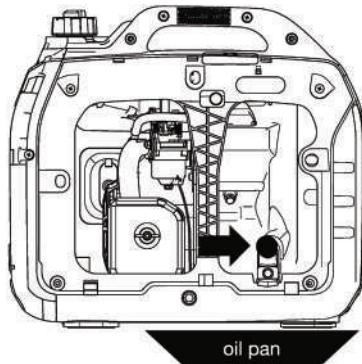

Figure 13: Place oil pan under oil fill/drain plug
4. Place oil pan (or suitable container) under the oil fill/drain plug (see Figure 13).